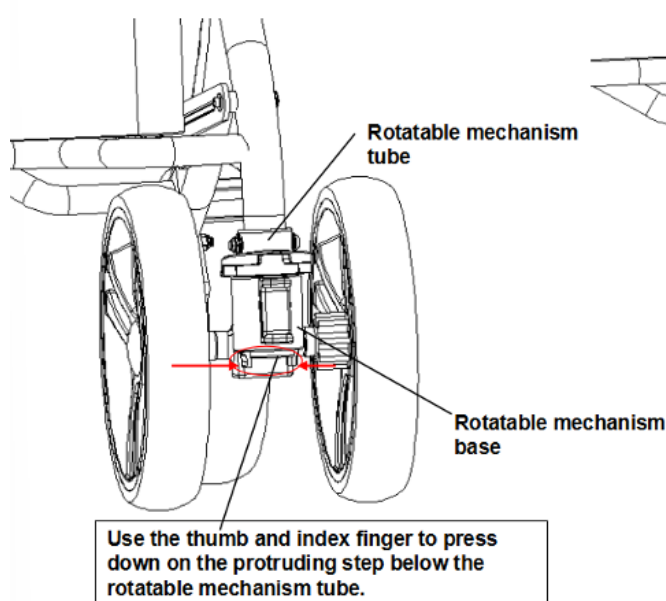

Figure 10
1. Installing the front wheel: Push the base of the swivel mechanism upward. When you hear a click, this indicates that the base and the tube of the swivel mechanism are fully aligned, confirming that the front wheel is correctly installed (as shown in Figure 10).